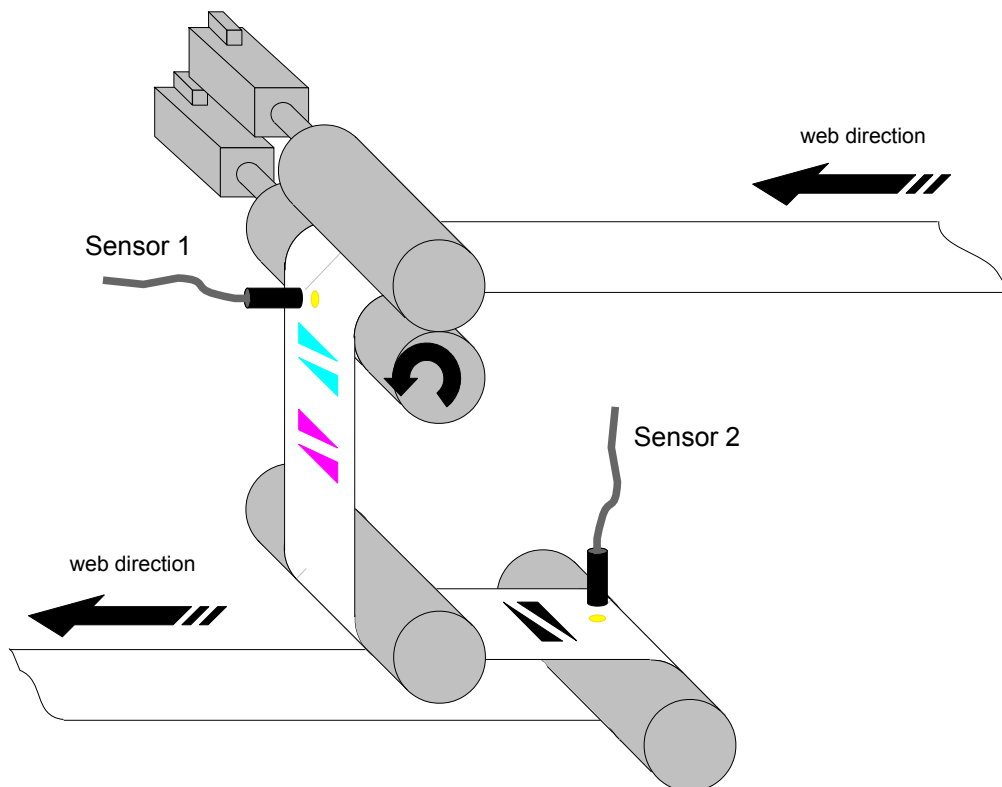

Figure 4.9: Overview Sensor Select
The IDS provides an interface for an additional print mark detection sensor (DS) for static switching to backside print detection or dynamic switching in Web-Web-2 mode (s. fig. 4.9).